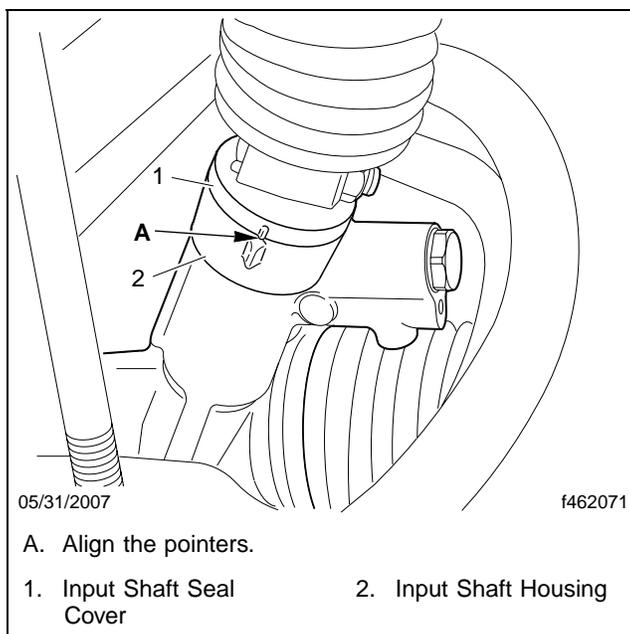

Fig. 30, Rack and Pinion Pointer Alignment
When the alignment process requires that the steering wheel be pointed straight ahead, align the steering rack on-center pointers instead. See **Fig. 30**.
11. Center the rack travel and align the timing pointers on the input shaft seal cover and the input shaft housing. See **Fig. 30**.
17. With the wheels on turnplates, center the rack travel by aligning the timing pointers on the input shaft seal cover and the input shaft housing. See **Fig. 30**.